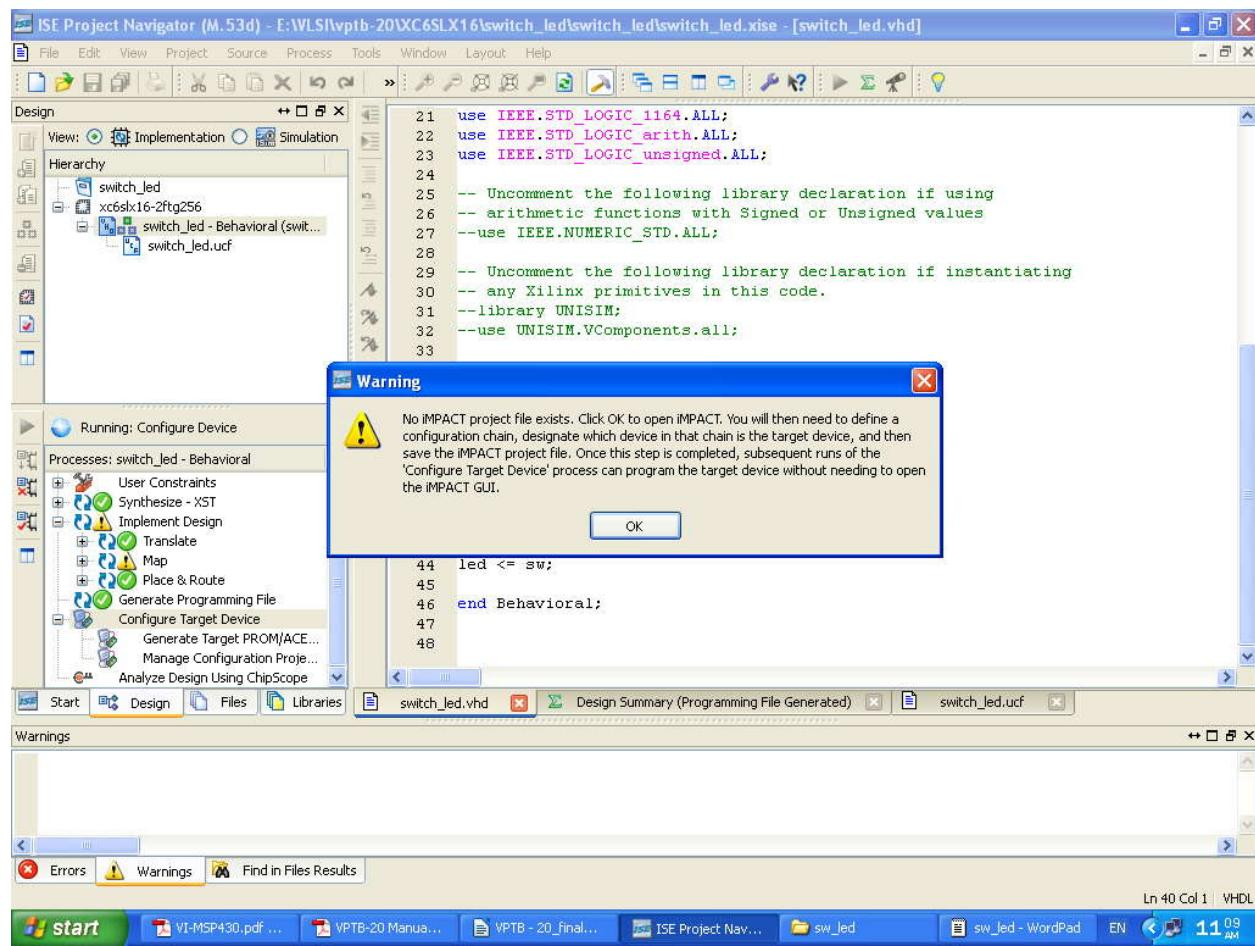

Figure-31
12. Click ok to continue the process. Then new impact window will open. Refer figure-31